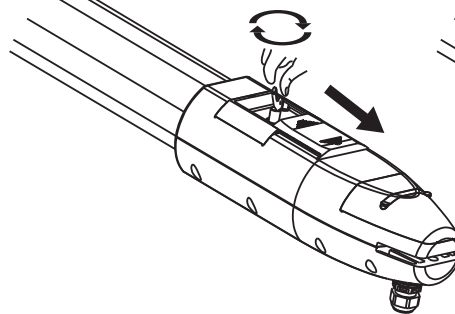

FIGURE 30
- B. Push out the release part to the end. See Figure 30